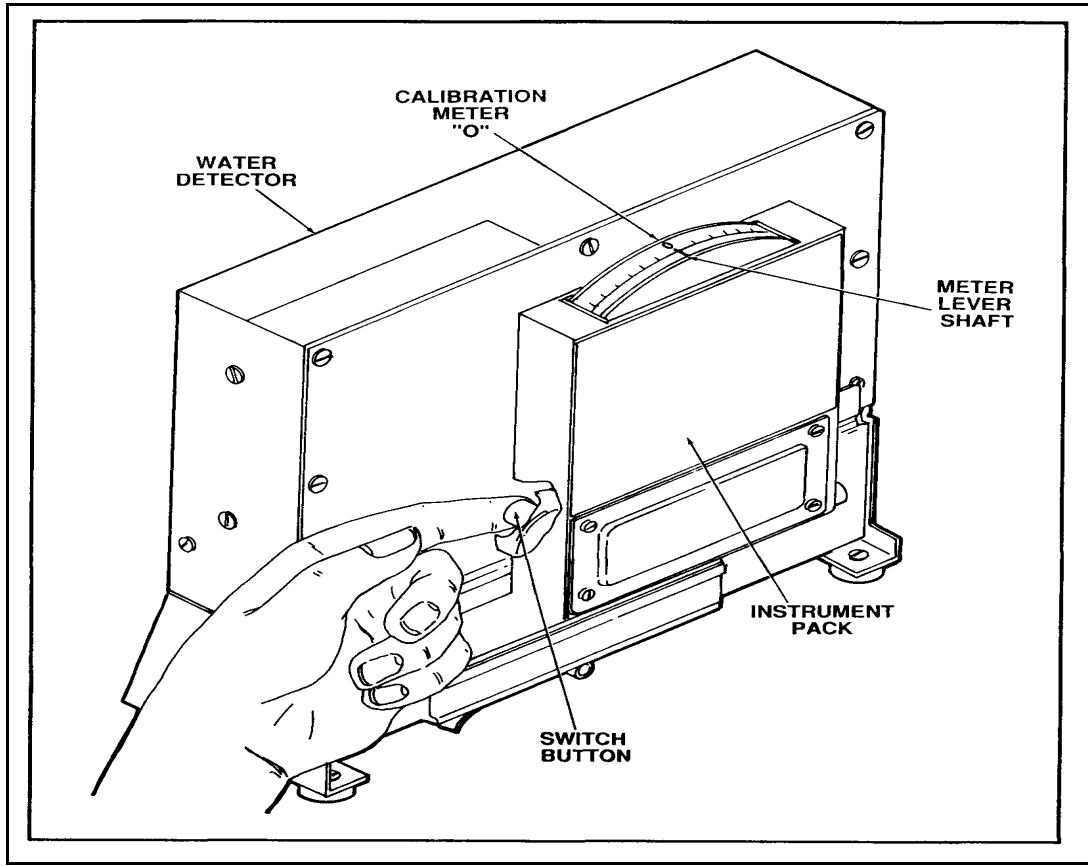

Figure E-6. Calibration meter lever shaft reading "0"
- Depress the switch button on the instrument pack and read the calibration meter. If the meter reads “0,” the water detector is calibrated as shown in Figure E-6, page E-5. If the meter reads any increment other than “0,” you must adjust the internal calibration screw until the water detector is “zeroed-out.”